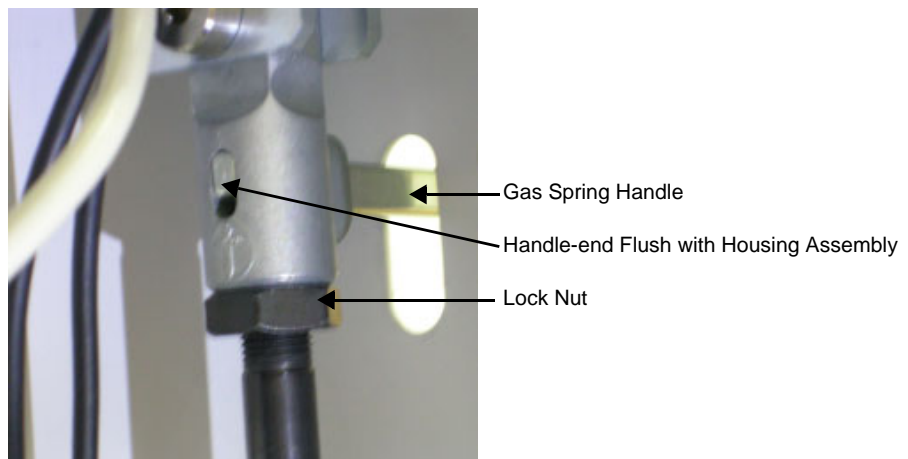

Figure 8-96 Gas Spring Holder Inserted Flush with Housing Assembly
- 4) Attach the Gas Spring to the housing assembly by turning it clockwise until the locking nut makes contact with the housing assembly - see Figure 8-96.